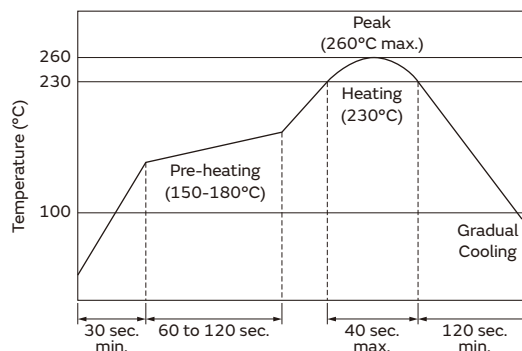

Fig. 1
Fig. 1 shows examples of the circuit to which the external drive method is applied.
(1) Flow soldering conditions for pin terminal type
(2) Soldering condition by soldering iron for pin terminal type
(3) Reflow soldering condition for surface mounting type
- Temperature profile: Fig. 1